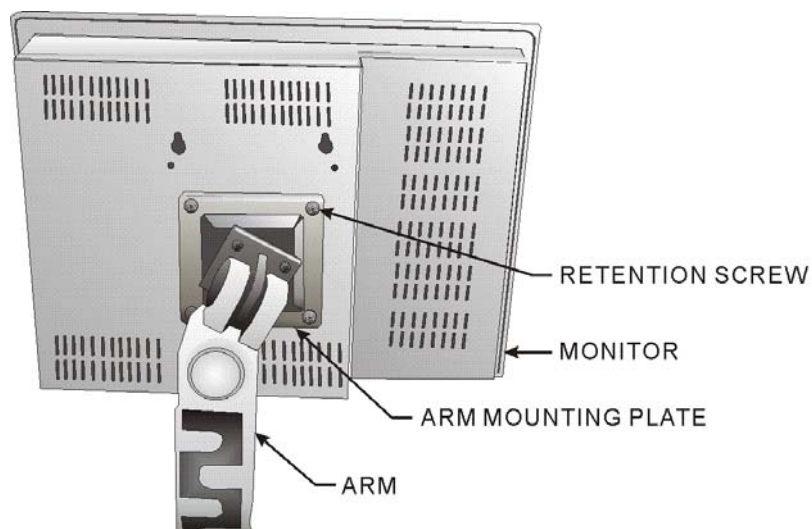

Figure 5-32: Monitor Arm Mounting
Step 2: Secure the monitor to the arm with the supplied retention screws (**Figure 5-32**).